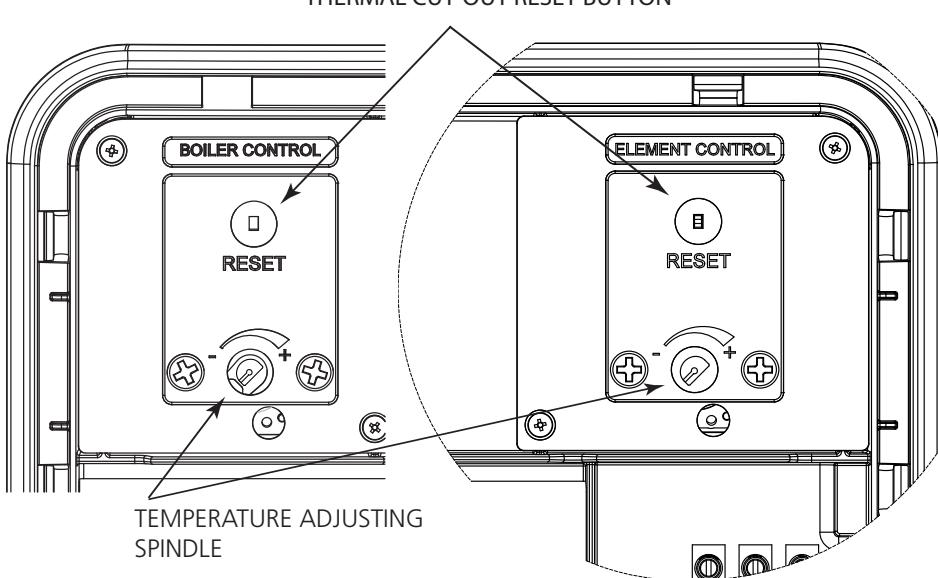

Figure 14: Thermostat adjustment
- ▶ The immersion heater thermostat is factory set at 60°C. Should this require adjustment see Fig 14 (page 20) for details of how to adjust the temperature setting. Each immersion heater has its own individual thermostatic control. The thermostat incorporates a thermal cut-out that will switch off the immersion heater in the event of a thermostat failure. The thermal cut-out reset button position is also shown on Fig 14.
- ▶ The immersion heater and indirect control thermostats are factory set at 60°C. Should this require adjustment see Fig 14 for details of how to adjust the temperature setting. The immersion heater and indirect controls each has its own individual thermostatic control. The thermostats incorporate a thermal cut-out that will switch off in the event of a thermostat failure. The thermal cut-out reset button position is also shown on Fig 14.
- ▶ If necessary the temperature can be adjusted by inserting a flat bladed screwdriver in the adjustment spindle on front of the indirect (BOILER) thermostat and rotating (see Fig. 14, page 20 for details of how to adjust). The adjustment represents a temperature range of 10°C to 70°C.
- ▶ If necessary the temperature can be adjusted by inserting a flat bladed screwdriver in the adjustment spindle on front of the immersion heater (ELEMENT) control thermostat and rotating (see Fig. 14 page, 20 for details of how to adjust). The adjustment represents a temperature range of 10°C to 70°C.
- ▶ Temperature adjustment is made by rotating the adjustment knob on the top of the thermostat. The adjustment represents a temperature range of 10°C to 70°C (see page 20, fig 14 for method of adjustment).